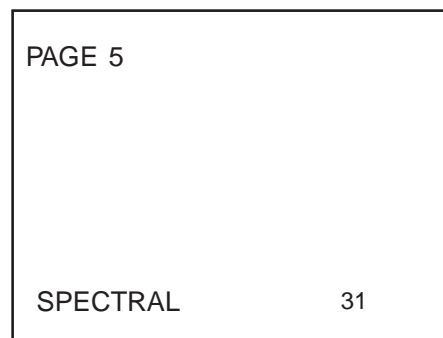

Fig. 5-4
4. Adjust the internal Variation of TV Multiplex Transmission Signaler to 1kHz and perform the same method as in step 3. (Fig 5-4)